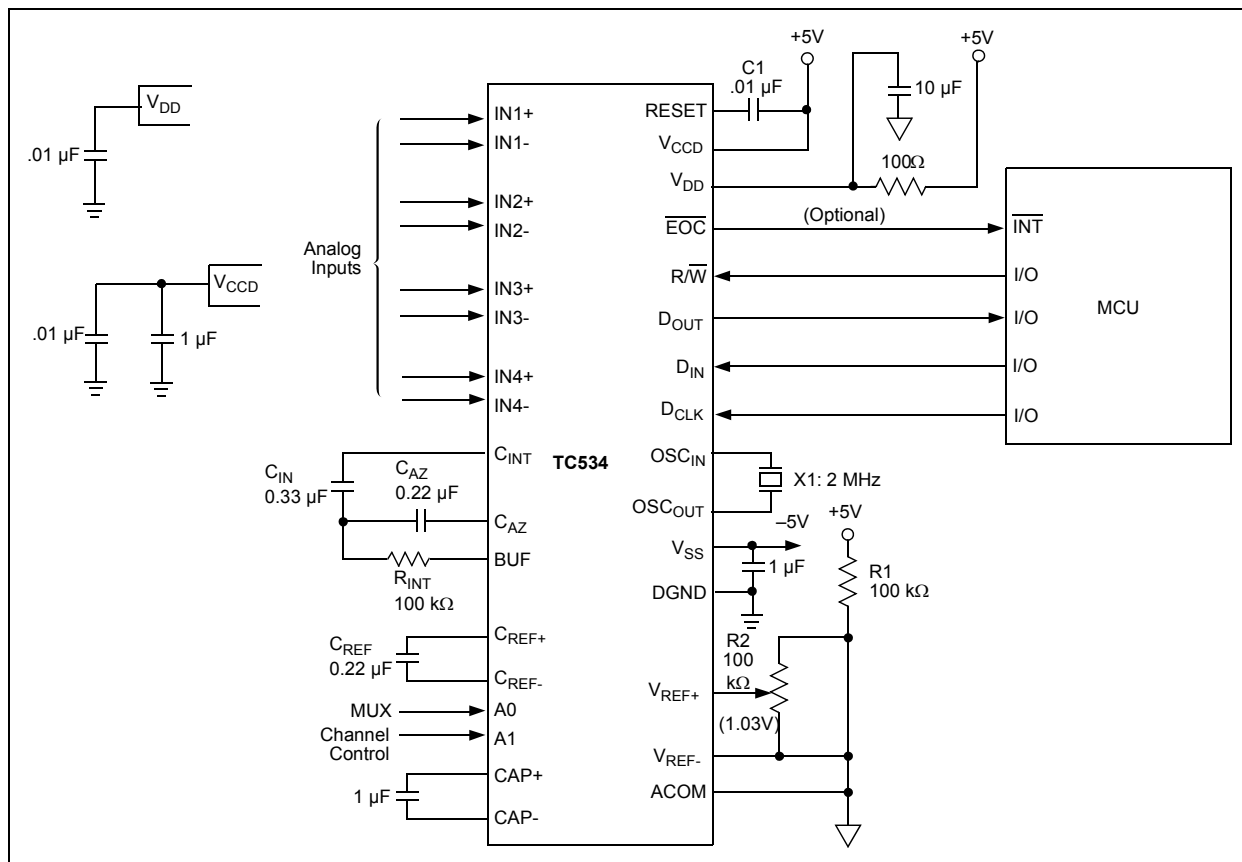

FIGURE 5-1: Typical Application.
Figure 5-1 shows a typical TC530 interrupt-driven application. Timing and component values are calculated from equations and recommendations made in **Section 4.1 "Dual Slope Integrating Converter"** and **Section 5.1 "Programming the TC530/TC534"** of this document. The EOC connection to the processor INT input is for interrupt-driven applications only. (In polled systems, the EOC output is available on D_{OUT}).
2. Improper sequencing of the power supply inputs (V_{DD} vs. V_{CCD}) can potentially cause an improper power-up sequence to occur in the internal state machines. It is recommended that the digital supply, V_{CCD} , be powered up first. One method of insuring the correct power-up sequence is to delay the analog supply using a series resistor and a capacitor. See Figure 5-1, TC530/TC534 Typical Application.